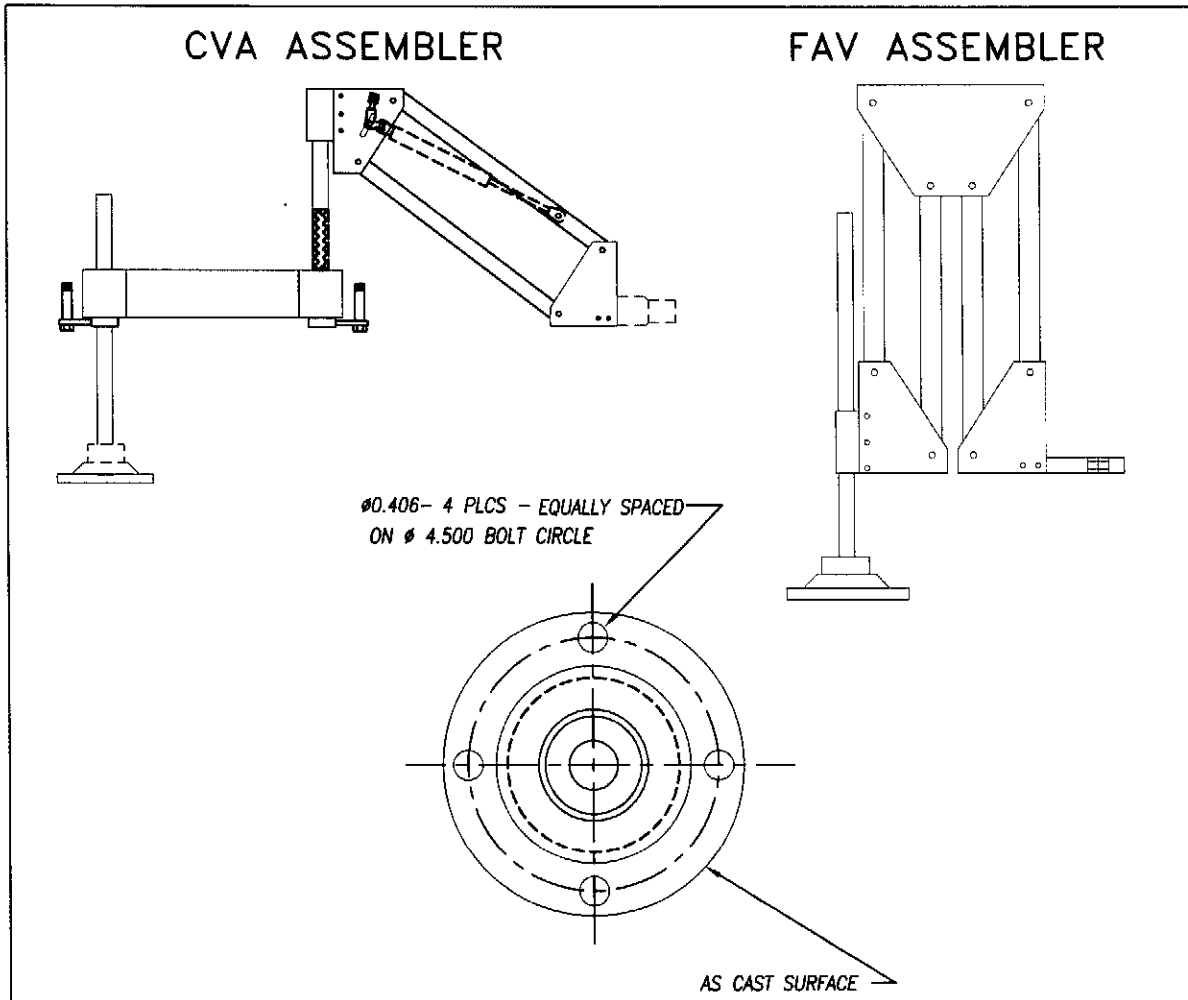

Figure1
(See Figure 1.)
- b) Adjust the arm stop; it should turn freely. (See figure 1)